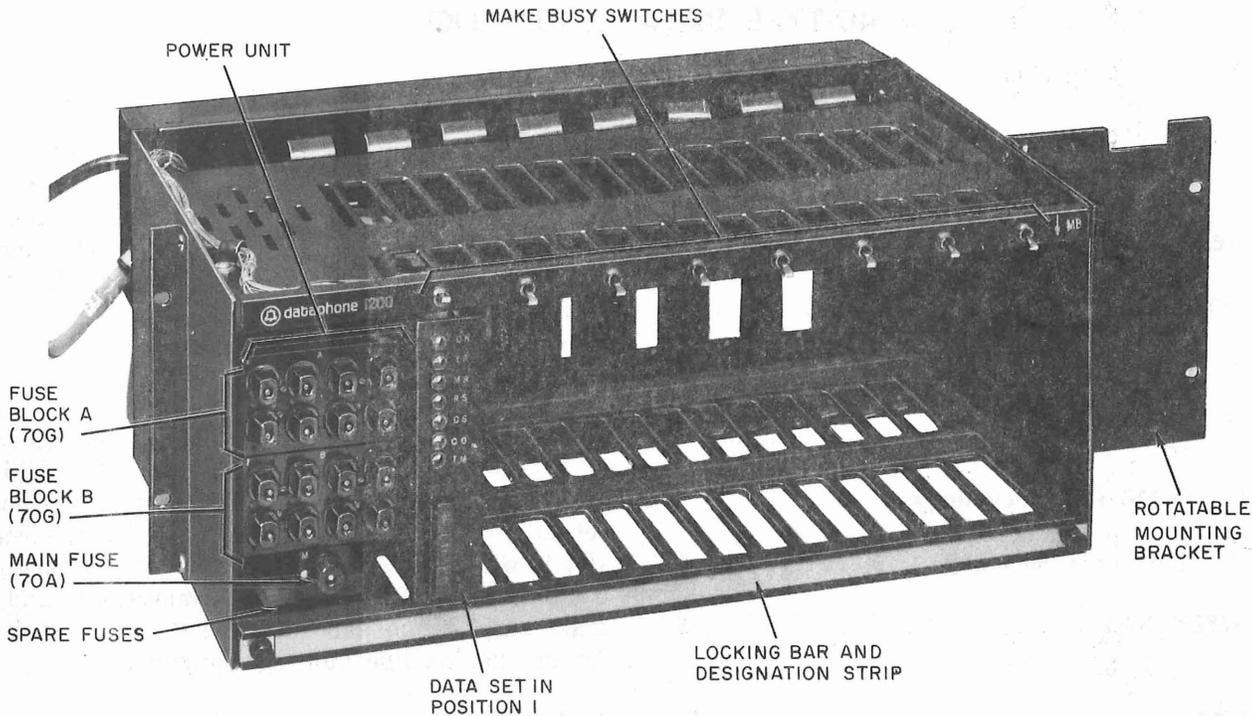

Fig. 1—40A1 Data Mounting (Shown for 23-Inch Mounting)
A. 40A1 Data Mounting (MD)
2.03 The 40A1 data mounting (Fig. 1) accommodates up to eight data sets (DSs) 103J-L1, 113C-L1, 113D-L1, 202S-L1, 202S-L1A, and/or data auxiliary set 801C-L1 (automatic calling unit). Every second slot is wired with low voltage alternating current, customer and telephone line connections, and a make-busy switch and remote test relay required for use behind line hunting equipment.